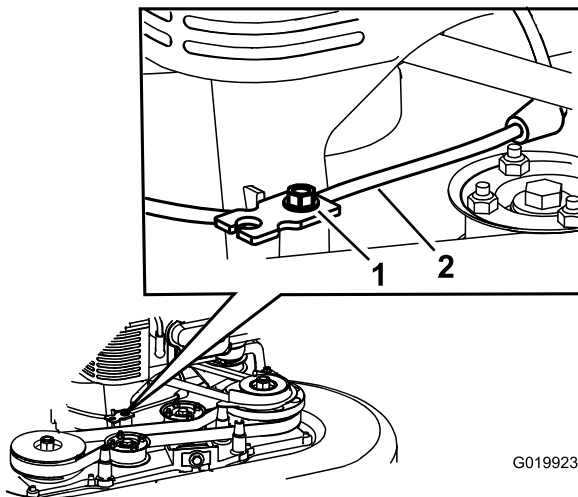

Figure 39
- Loosen the cable-clamp screw (Figure 39).